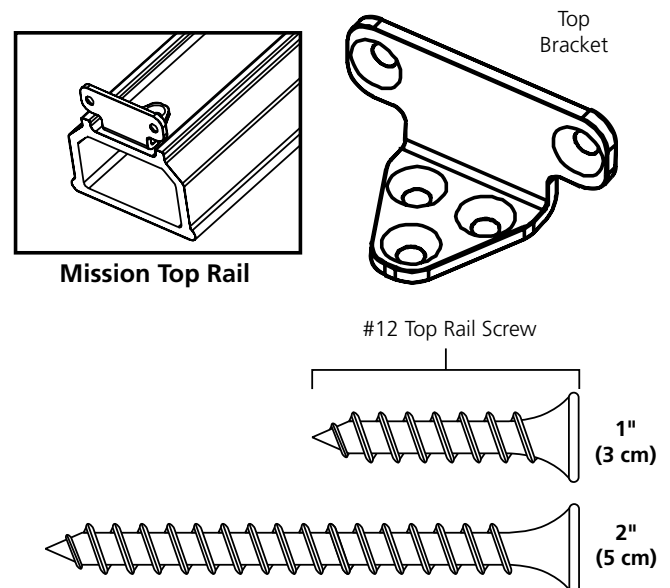

Figure 20
7. Center the top bracket on the underside of the top rail (Figure 20). Inset the top bracket 1/16" (2 mm) from the end of the rail. Mark the three hole locations on the rail. Pre-drill 5/32" (4 mm) holes at the desired locations. Repeat for opposite end.